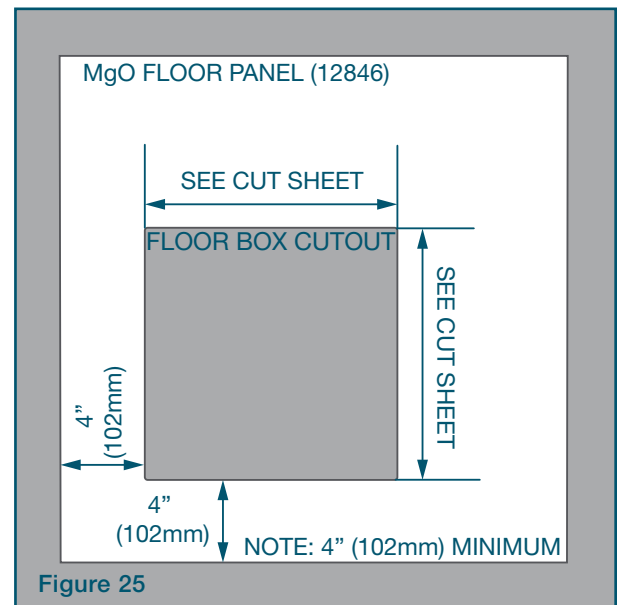

Figure 25
- 02** Cut a hole through the panel cutout following the cut sheet for the project (see Figure 25).